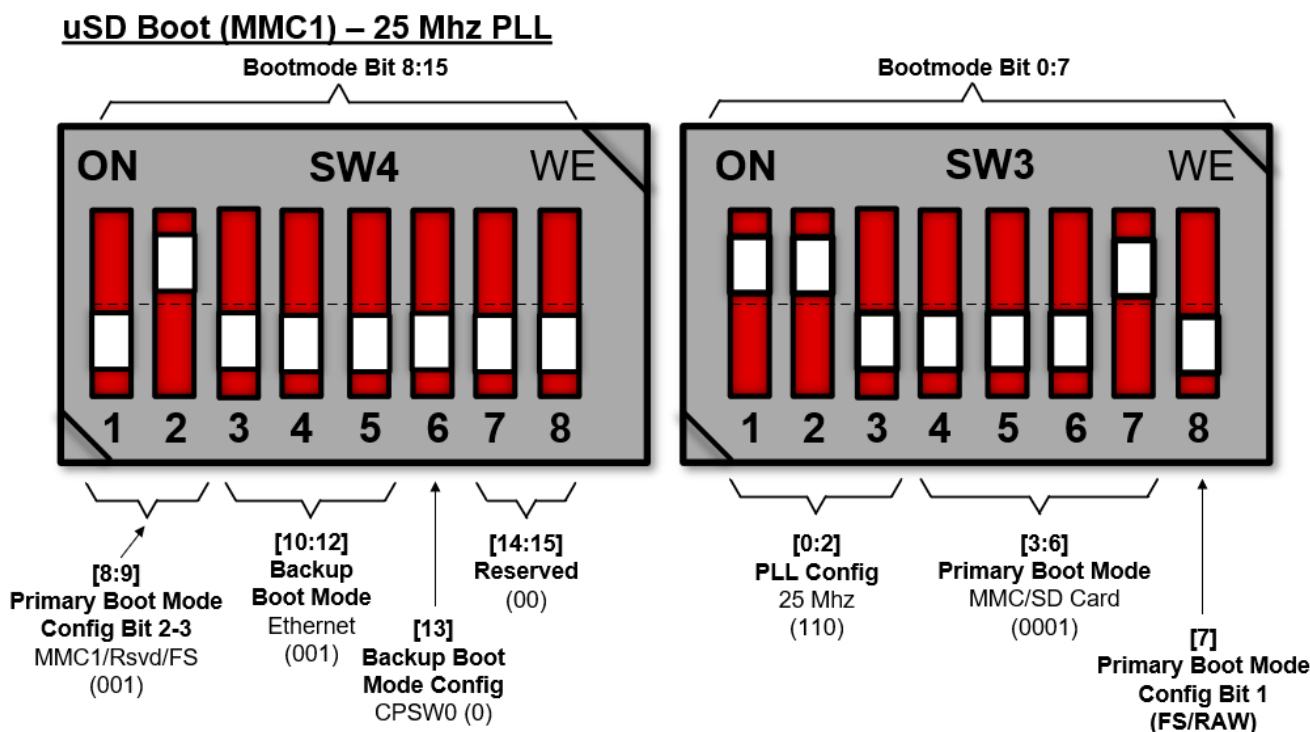

Figure 2-5. Example SD Boot Mode
1. Place the SK EVM boot switch selectors (SW3, SW4) into selected boot mode. Figure 2-5 shows example boot-modes for the SD card.